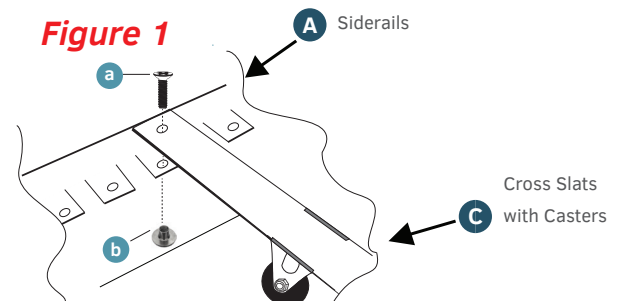

Figure 2
- ☐ Attach Cross Slats with Casters **C** to the third hole from each side rails. Do the same with opposite side. Align each Cross Slat **B** with the holes in the Side rail **Figure 1**. Completed Unit, see **Figure 2**.